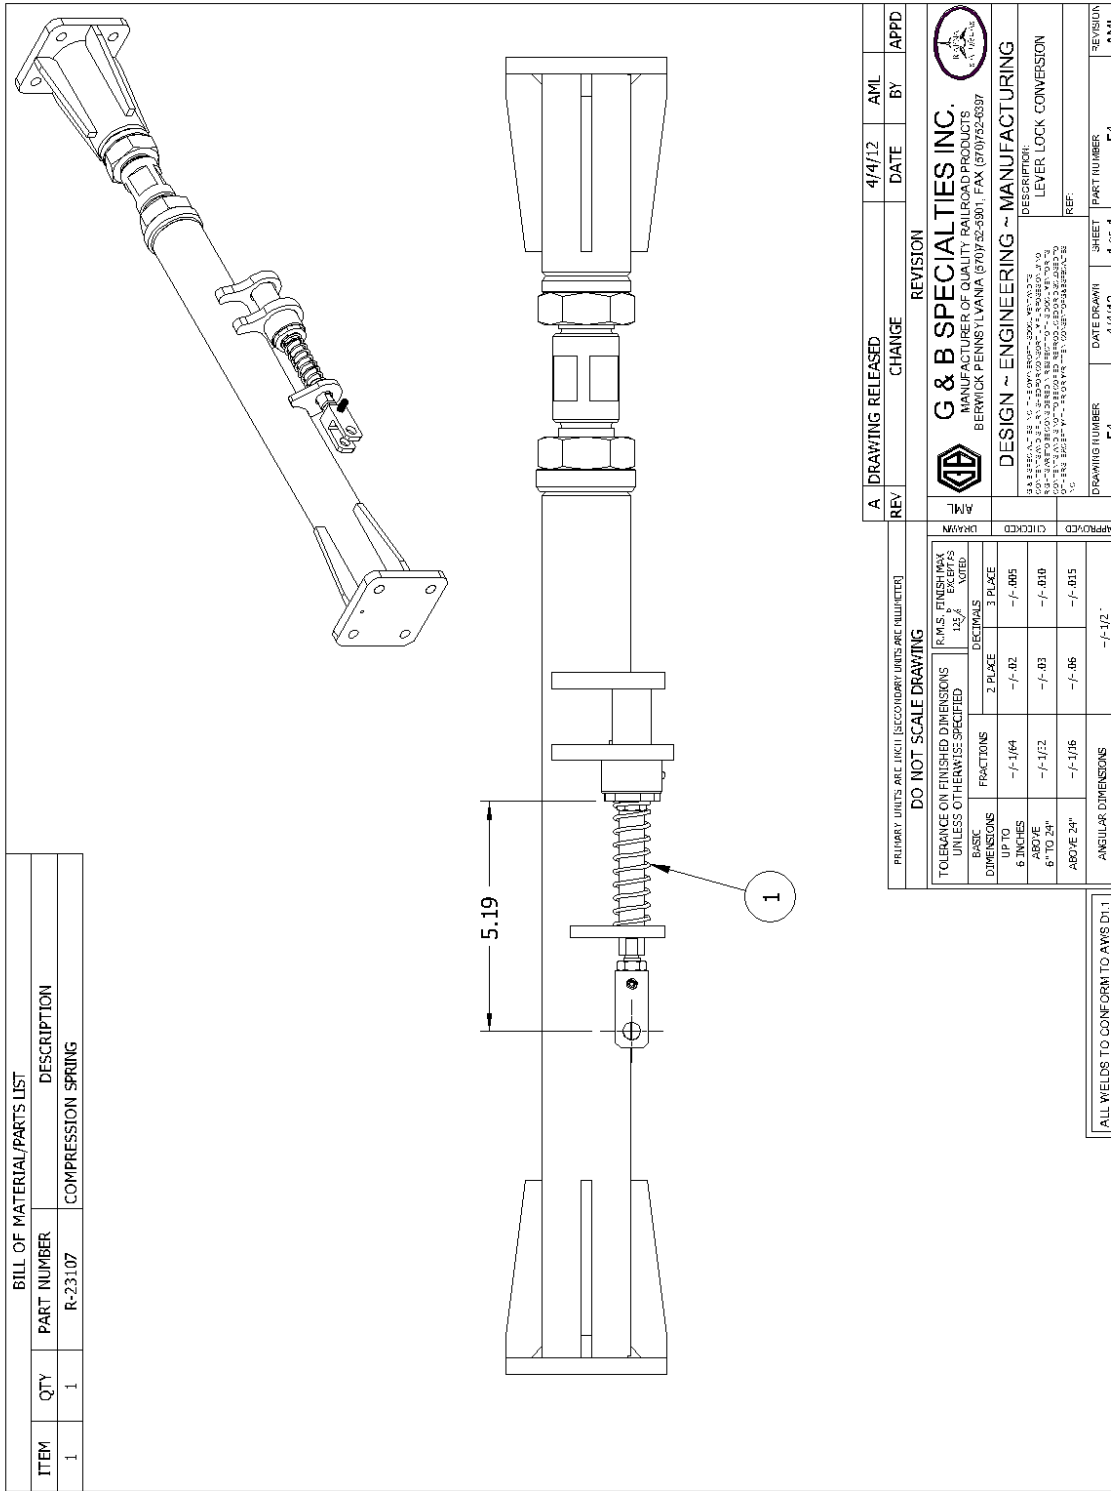

Figure 4
9. Place new spring between the back face of the lock pin and the front face of the guide tab. The pull rod assembly and jam nut should be inside the spring (Figure 4)
10. Thread the pull rod all the way into the lock pin and tighten the jam nut against the lock pin (Figure 4)